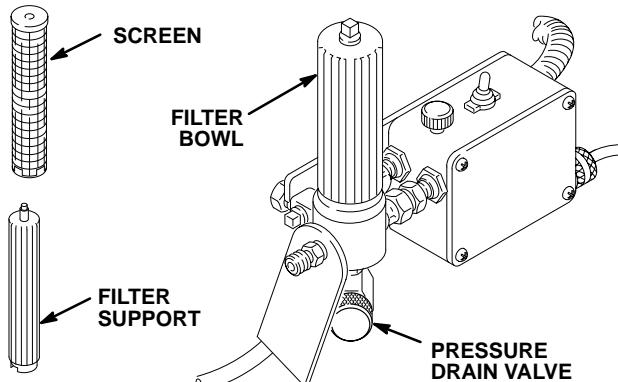

Fig 6
2. Remove the filter bowl and screen: see manual 307-273. Install the bowl (only) to flush it. Close the pressure drain valve. See Fig 6.
9. Clean the filter screen and reinstall it in the bowl. See Fig 6.